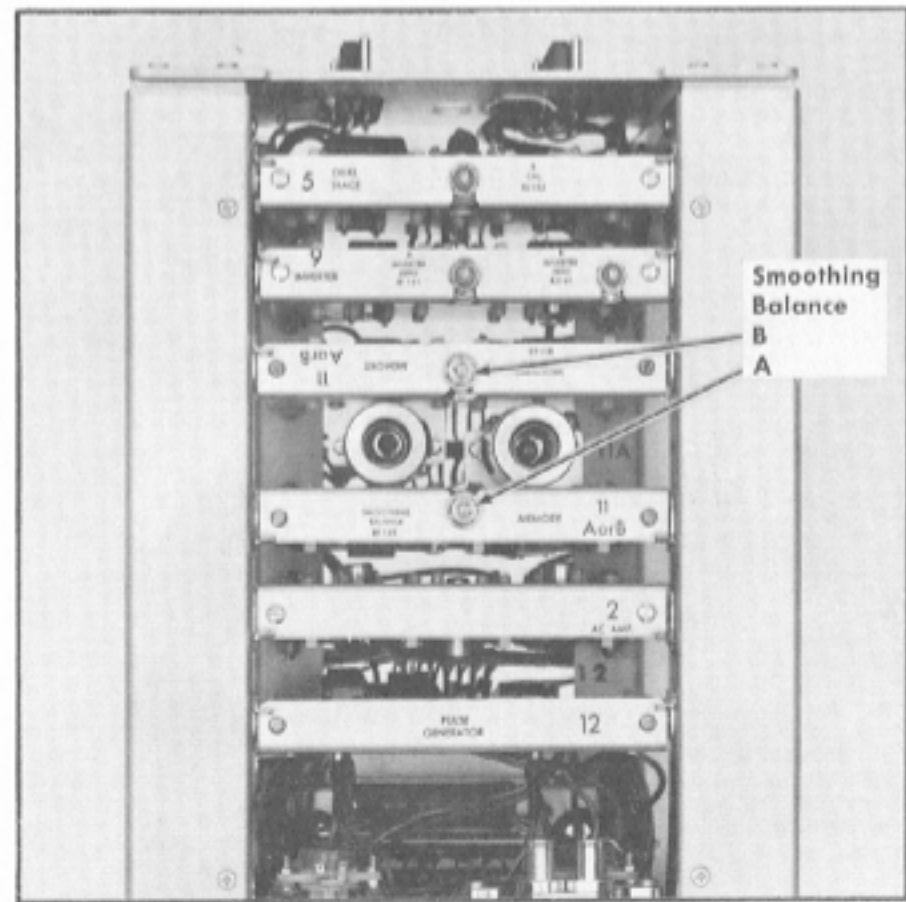

Fig. 6-12. Location of Type 4S2A circuit board controls.
- Connect the 10X Probe tip to the Type 4S2A Channel A OFFSET MONITOR jack. See Fig. 6-12.